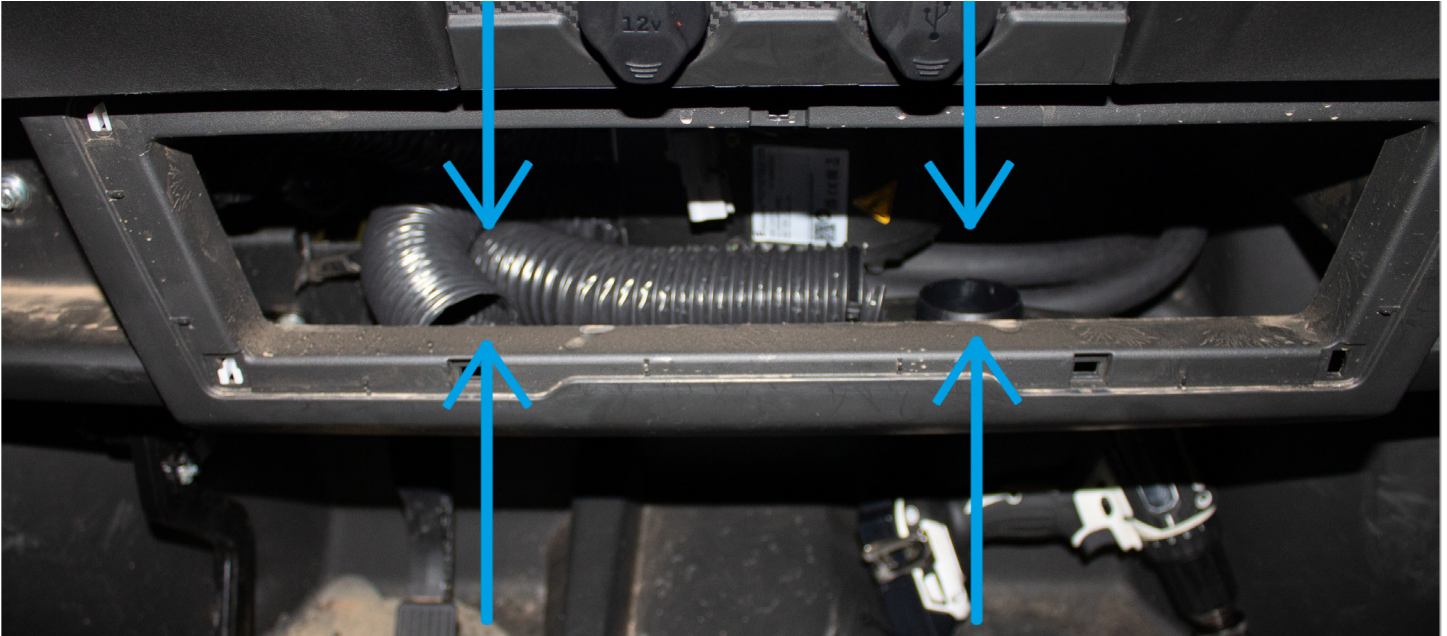

FIGURE 14
48. Mark two spots on the lower dash and using the 2-1/8" hole saw drill out the two locations. **FIGURE 14**